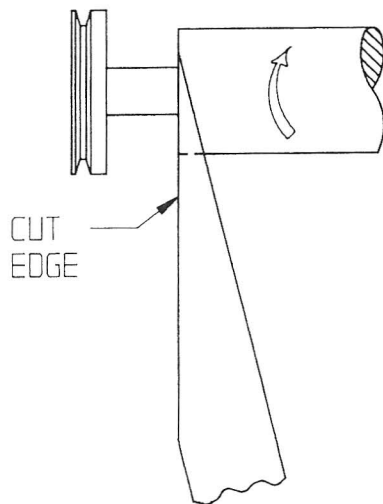
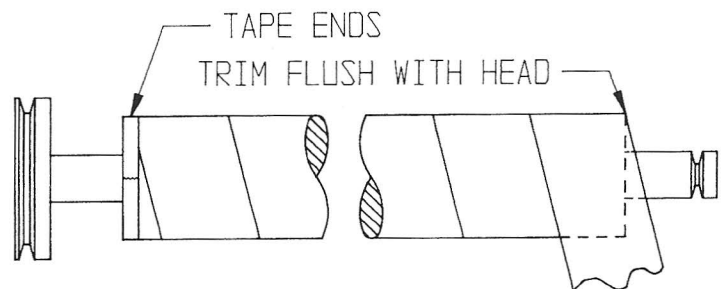

Fig. A-3
Fig. A-4
6. Apply the sandpaper to the drum in a spiral. Start the cut edge at the drive end of the drum, and turn the drum one revolution (see fig. A-3). Then align with the edge of the sandpaper, and continue to turn the drum (see fig. A-4). Make sure the sandpaper is wrapped tight.